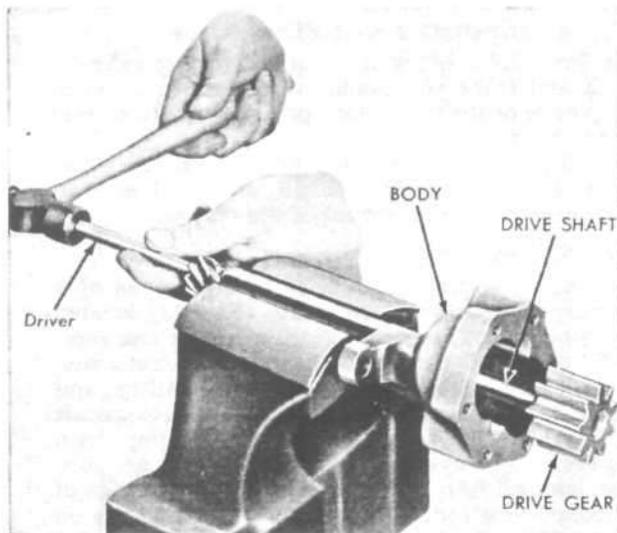

FIG. 74—REMOVING OIL PUMP DRIVE SHAFT AND GEAR
- d. Using a suitable drift, drive out the drive shaft (Fig. 74).